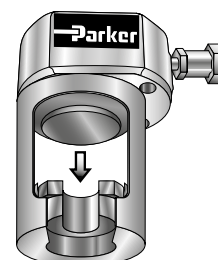

Figure 6
2. Insert "U-shaped" Nut Die Adapter of the Hydraulic Ram as shown in Figure 6.